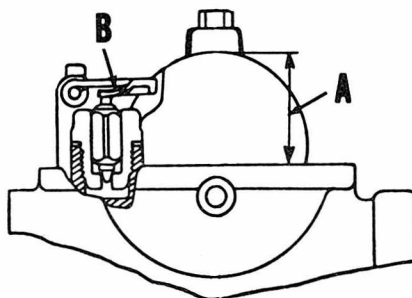

Fig. S7-3—Float level (A) may be adjusted by bending tang (B).
Float level (See Fig. S7-3)
Float level (See Fig. S7-3) 27.5 MM ( $1\frac{1}{8}$  inch)
Float level (A—Fig. S7-3) is adjusted on all models by bending tang (B). Measurement is taken by inverting carburetor body and checking distance from bottom of floats to gasket surface of carburetor body (gasket removed).